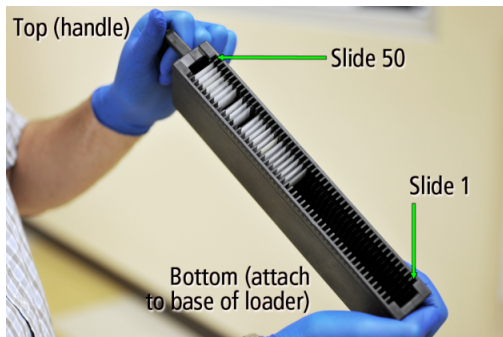

Figure 7. Slides loaded into a cassette
2. You may load up to 50 slides in each cassette. Load slides into cassettes so that the labels are facing upward and outward. Slides can be loaded into any position in the cassette; they do not have to be in contiguous locations (see Figure 7).